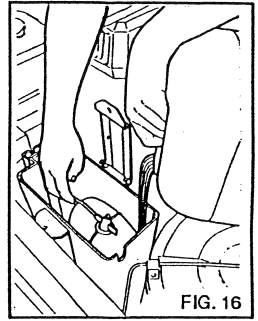

FIG. 16
- 4) Pour about 3 litres of antifreeze into the water tank (fig. 16).